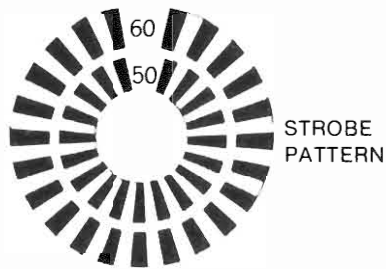

Figure 1
If a Disk Drive Tester is not available, center and paste a strobe pattern on the Drive Motor on the bottom of the Disk Drive, see Figure 1. Insert a diskette into the Drive and close the door. Type in and run the program listed under "Continuous Operation of Disk Drive" to keep the Disk Drive running. Use the outside pattern when 60 cycle fluorescent lighting is used or the inside pattern for 50 cycle lights. Adjust the Motor Speed Control (VR) on the Motor Control Board until the strobe pattern appears to stand still.